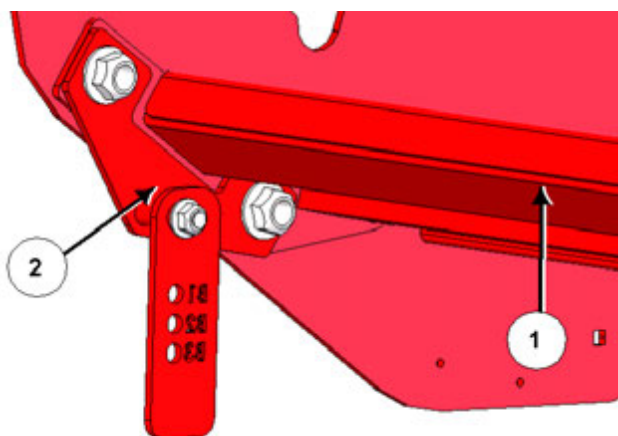

Figure 13: Remove deflector hanger and tub floor
- f. Ensuring that the tub floor (1) remains supported, carefully remove the bolts fastening the deflector hanger (2) to the tub floor (1) and front tub wall. Remove the hanger deflector (and tab) and the tub floor; see *Figure 13*.